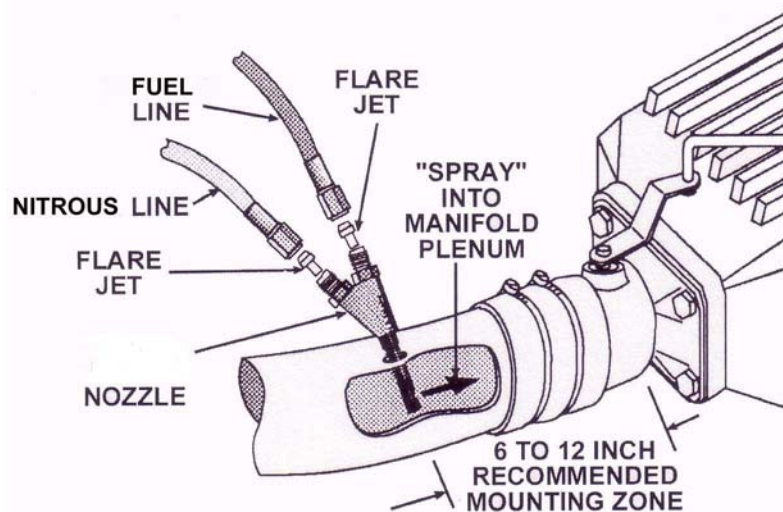

FIG. 5
**Note:** The recommended mounting location for the nozzle is in the air inlet duct, between the throttle body and the mass airflow sensor (in applications where a mass airflow sensor is used). In certain applications where the throttle body is an integrate part of the air cleaner housing, install the nozzle between the throttle body and the intake manifold. If possible, install the nozzle between 6 and 12 inches before the throttle body or any major turn in the air inlet duct. See figure 5. You will be mounting two nozzles on your car. The provided “T” and extra hoses will run to the additional nozzle.
- 2) Select the desired mounting location for the nozzle (5), taking into account the length of the nitrous and fuel supply hoses and the intended location of the solenoids. Take into account that the nozzle and lines must clear the hood so check for clearance before drilling.
- 1) Select the proper nitrous and fuel jets (15). Place the desired jets into the nozzles, making sure that the jets are inserted into the correct locations, as marked in figure 5 Check the jet cart for correct jet sizes.
- 2) Connect and tighten the blue fitting side of the 2 ft. 3AN hoses (10) to the nozzles as shown in figure 5
- 3) Connect and tighten the red fitting side of the 2 ft. 3AN hoses (10) to the nozzles as shown in figure 5